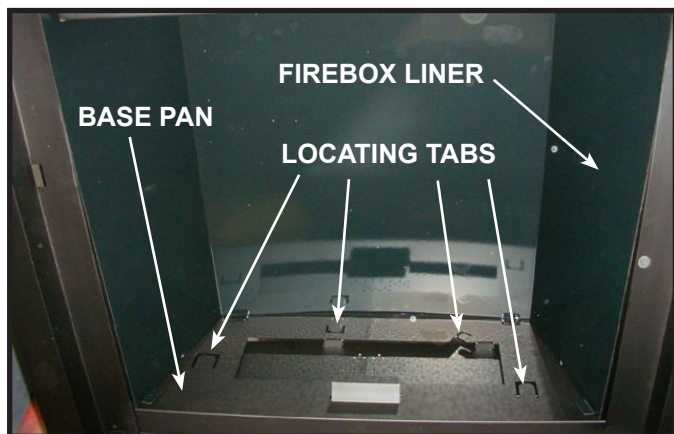

Figure 14.7
2. Fold down the log locating tabs (if bent up) on the base pan so they are parallel with the burner. See Figure 14.7.
3. Proceed to step 4 if the firebox liner is not being installed. Install the firebox liner by placing it on the base pan of the fireplace and sliding it back until it contacts the back of the fireplace. See Figure 14.7.
4. Set the rock tray on top of the base pan. See Figure 14.7.